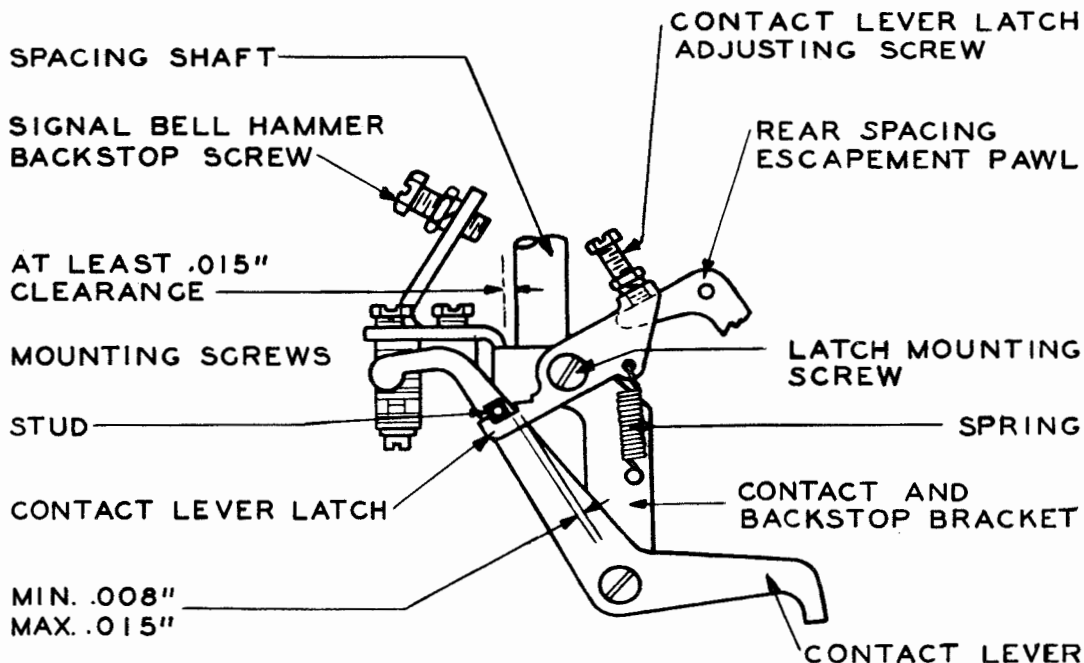

Figure 4
4.02 Contact-lever should clear the bell reset-bar by not more than 0.020 inch when the play in the lever is taken up to make the clearance a minimum. (See Figure 3.) The contact and backstop-bracket should clear the spacing-shaft by at least 0.015 inch. (See Figure 4.)
Note: On units equipped with a latch, the latch adjusting screw should also engage the rear spacing-escapement pawl squarely. See Figure 4.
4.03 Contact-lever-latch Shoulder nearest the pivot-screw should clear the contact-lever stud by minimum 0.008 inch, maximum 0.015 inch when the platen is in the FIGS position, BELL combination is set up on the vanes, the main shaft has been rotated until the bell latch-bar is moved off its latch and the contact-lever is held against the bell latch-bar. See Figure 4.